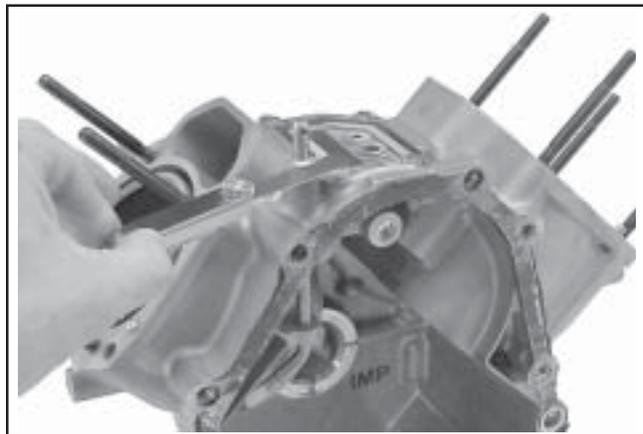

Figure 11-4. Setting End Play of Governor Shaft.
3. Install the nylon washer onto the governor cross shaft, then start the push-on retaining ring. Hold the governor shaft up in position, then place a **0.25 mm (0.010 in.)** feeler gauge on top of the nylon washer, and push the retaining ring down the shaft to secure. Remove the feeler gauge, which will have established the proper end play. See Figure 11-4.